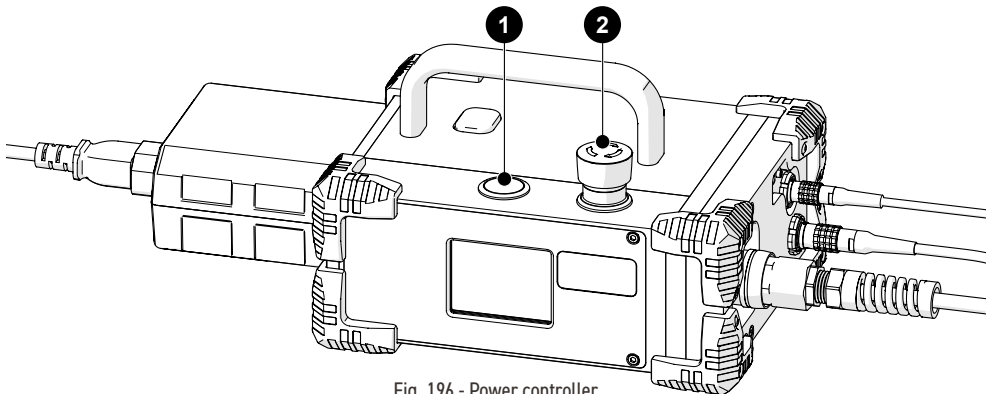

Fig. 196 - Power controller
3. Locate the **2** red off push-button on the power controller. Rotate this button clockwise to unlatch (Fig. 196).
4. The **1** power button (Fig. 196) on the power controller activates the system.